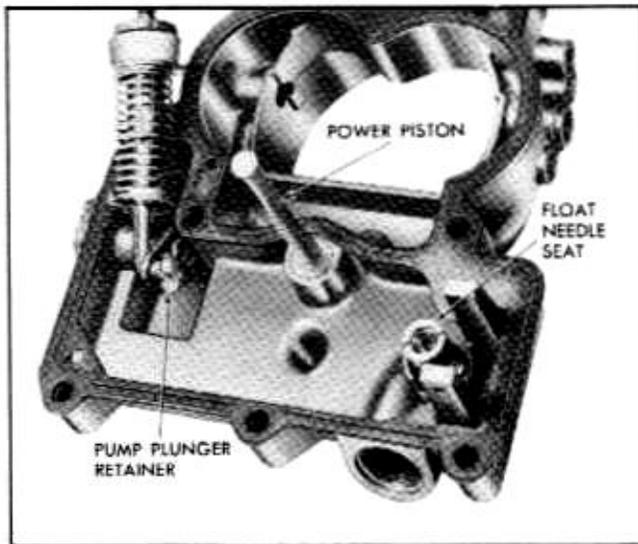

Fig. 6B-60 Power Piston and Pump Plunger
13. Remove float needle seat and gasket with wide blade screw driver (Fig. 6B-60).